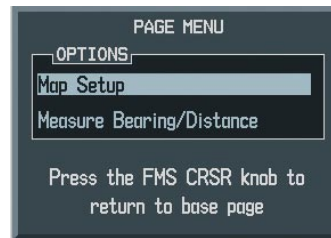

Figure 6-38 Page Menu
- 2) With 'Map Setup' selected (Figure 6-38), press the **ENT** Key.